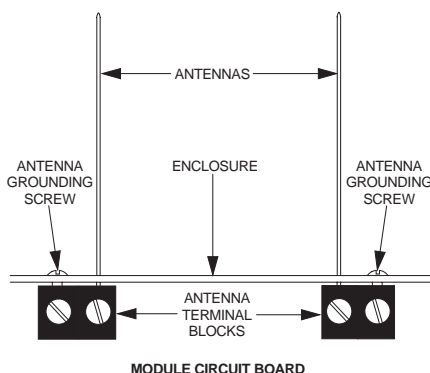

Figure 7. Installing Metal Case Antennas and Grounding Screws
1. Loosen the terminals of the left and right antenna terminal blocks (see Figure 7).